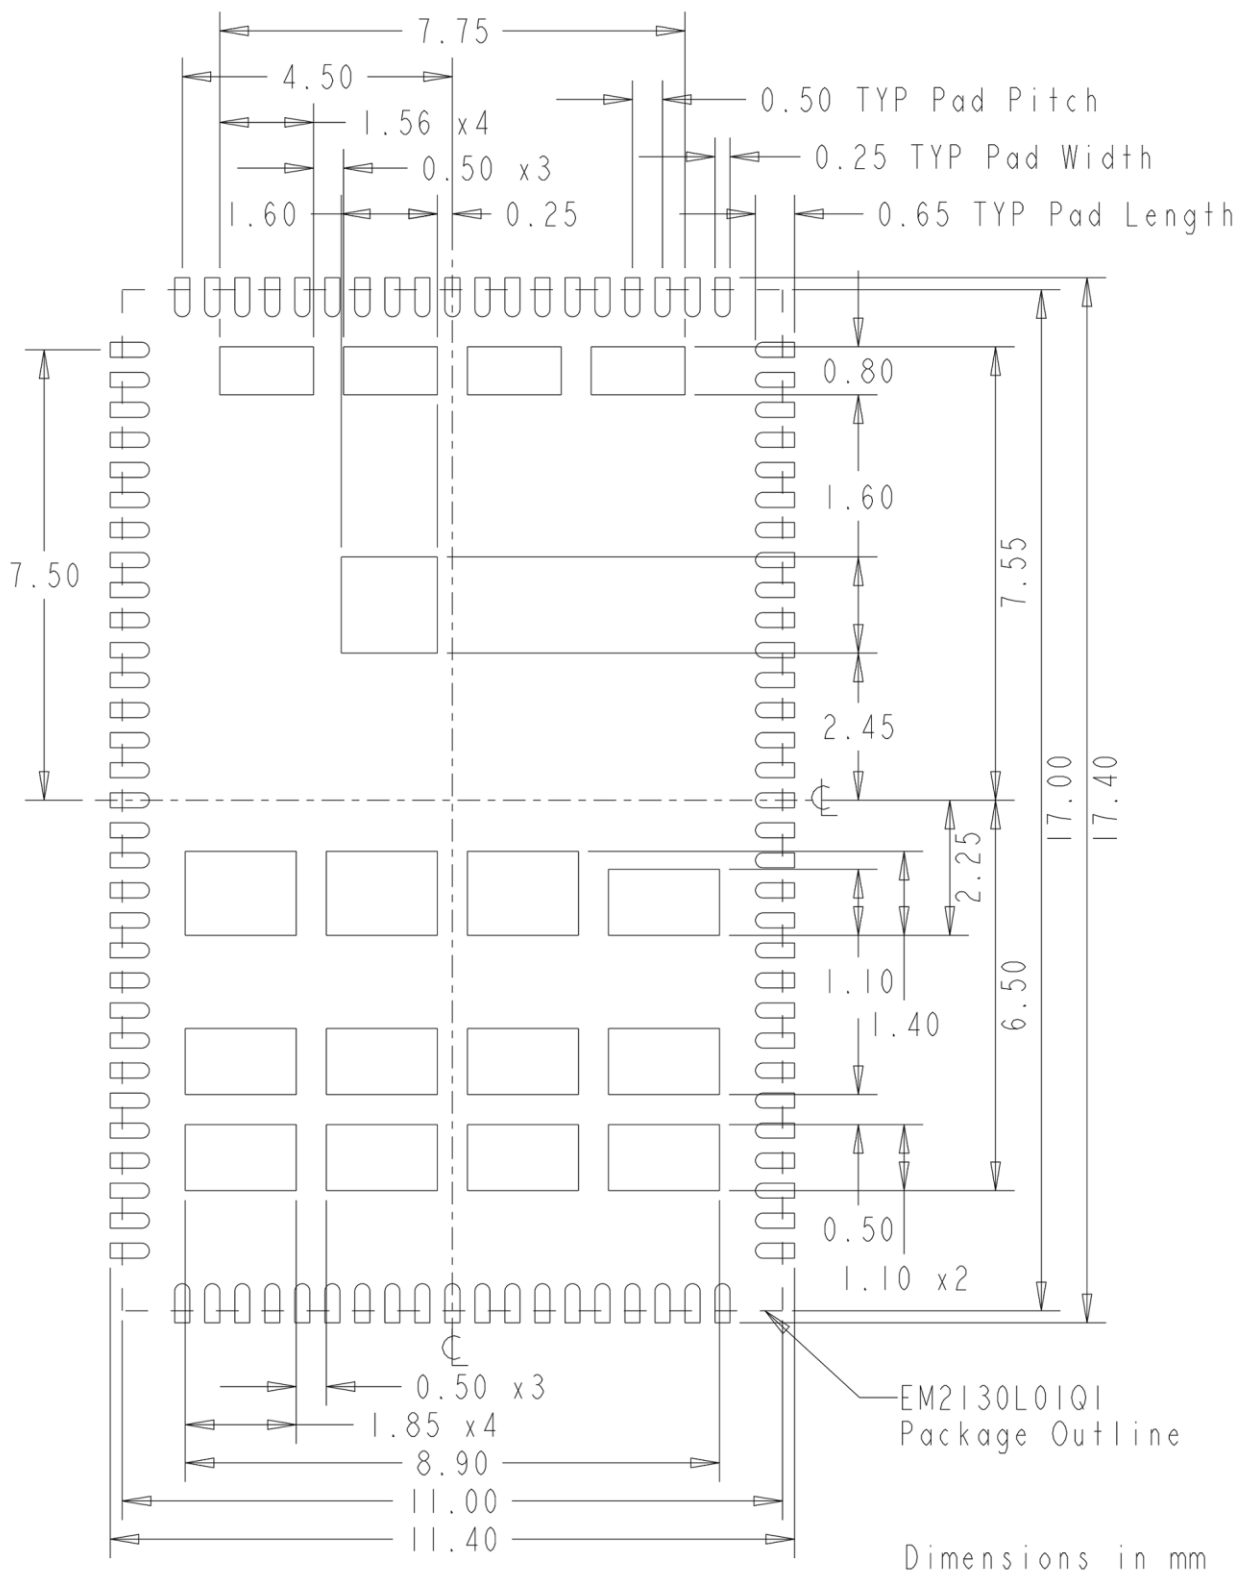

Figure 20: Recommended Solder Stencil Aperture
**Recommendation 7:** Figure 20 also shows the 0Ω resistor that connects AGND to PGND. The recommended connecting point, as shown, is to a quiet PGND → the output capacitors PGND.